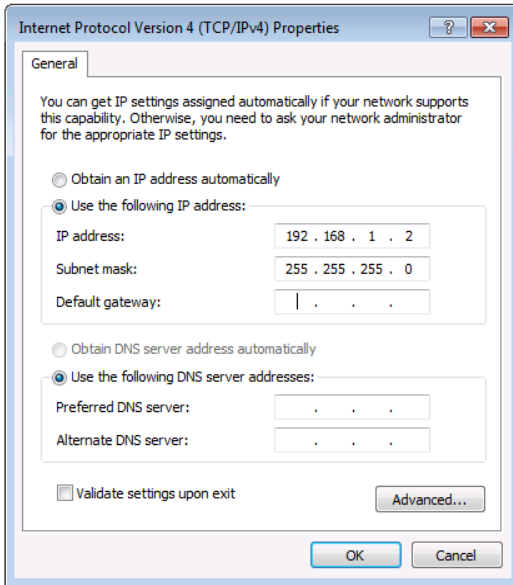

Figure 9: Internet Protocol Properties Window
5. Select **Use the following IP Address** for static IP addressing and fill in the details as shown in Figure 9.